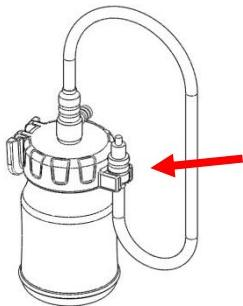

Figure 5.
2. Hang the connector on the connector hanger on the cap (see Figure 5).